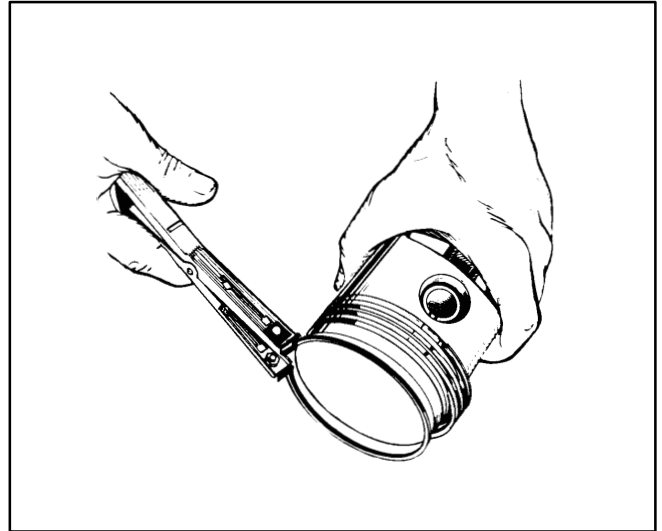

FIGURE 7-13. PISTON RING SPREADER
5. The pistons are fitted with two compression rings and one oil control ring. Remove these rings from the piston using a piston ring spreader (Figure 7-13).